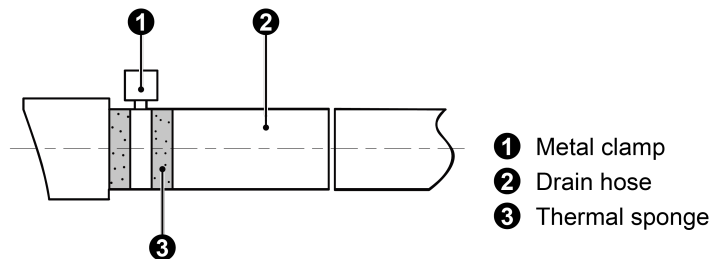
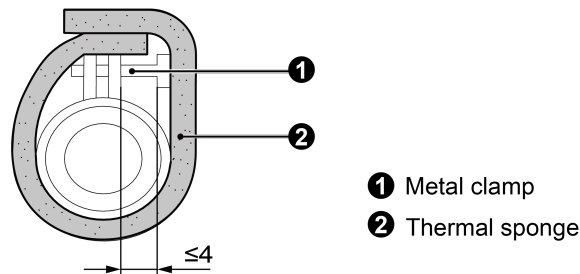

Fig 4.9
Fig 4.10
- (1) Insert the drain hose into the drain hole and tighten it with tapes, as shown in Fig 4.9
- (2) Tighten the pipe clamp, with the distance between screw nut and hose smaller than 4mm.
- ① metal clamp(accessory)    ② drain hose(accessory)    ③ Grey tape(accessory)
- (3) Use sealing plate to make the pipe clamp and hose insulated, as shown in Fig 4.10
- ① metal clamp(accessory)    ② thermal sponge(accessory)